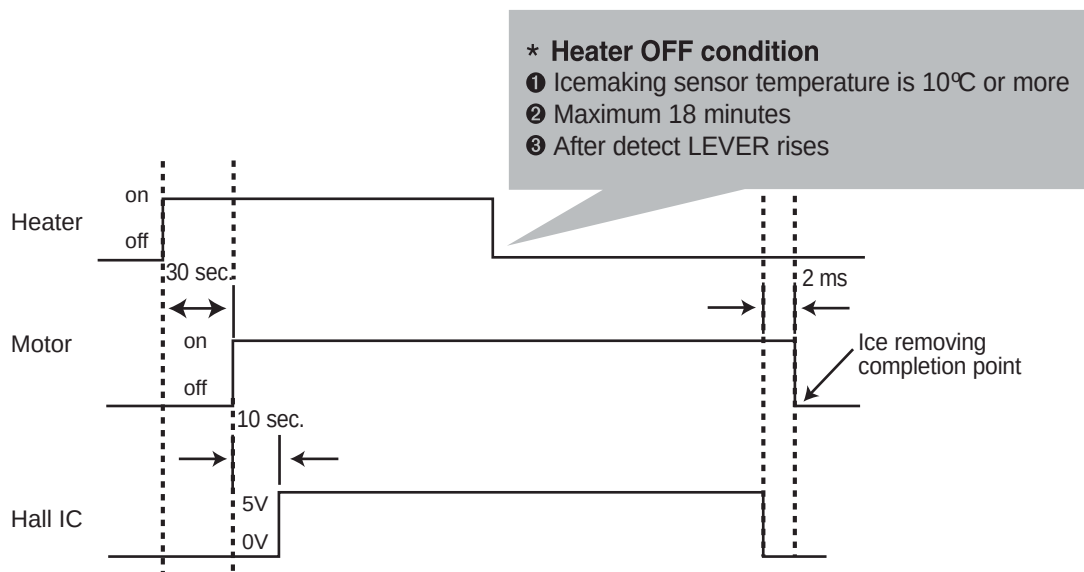

Figure1. Harvest mode Process
- (1) The heater is ON for 30 seconds, then the motor starts.
- (2) After performing Step 1 (the heater is turned OFF), the ejector will be back in place within 18 minutes. (Hall sensor sign = OV). Ice removal is then complete. Then the icemaker cycles to the fill mode. The water supply fails to start, it is not functioning. Put the heater and motor in the off position. Restart every 2 hours. (Refer to figure1)